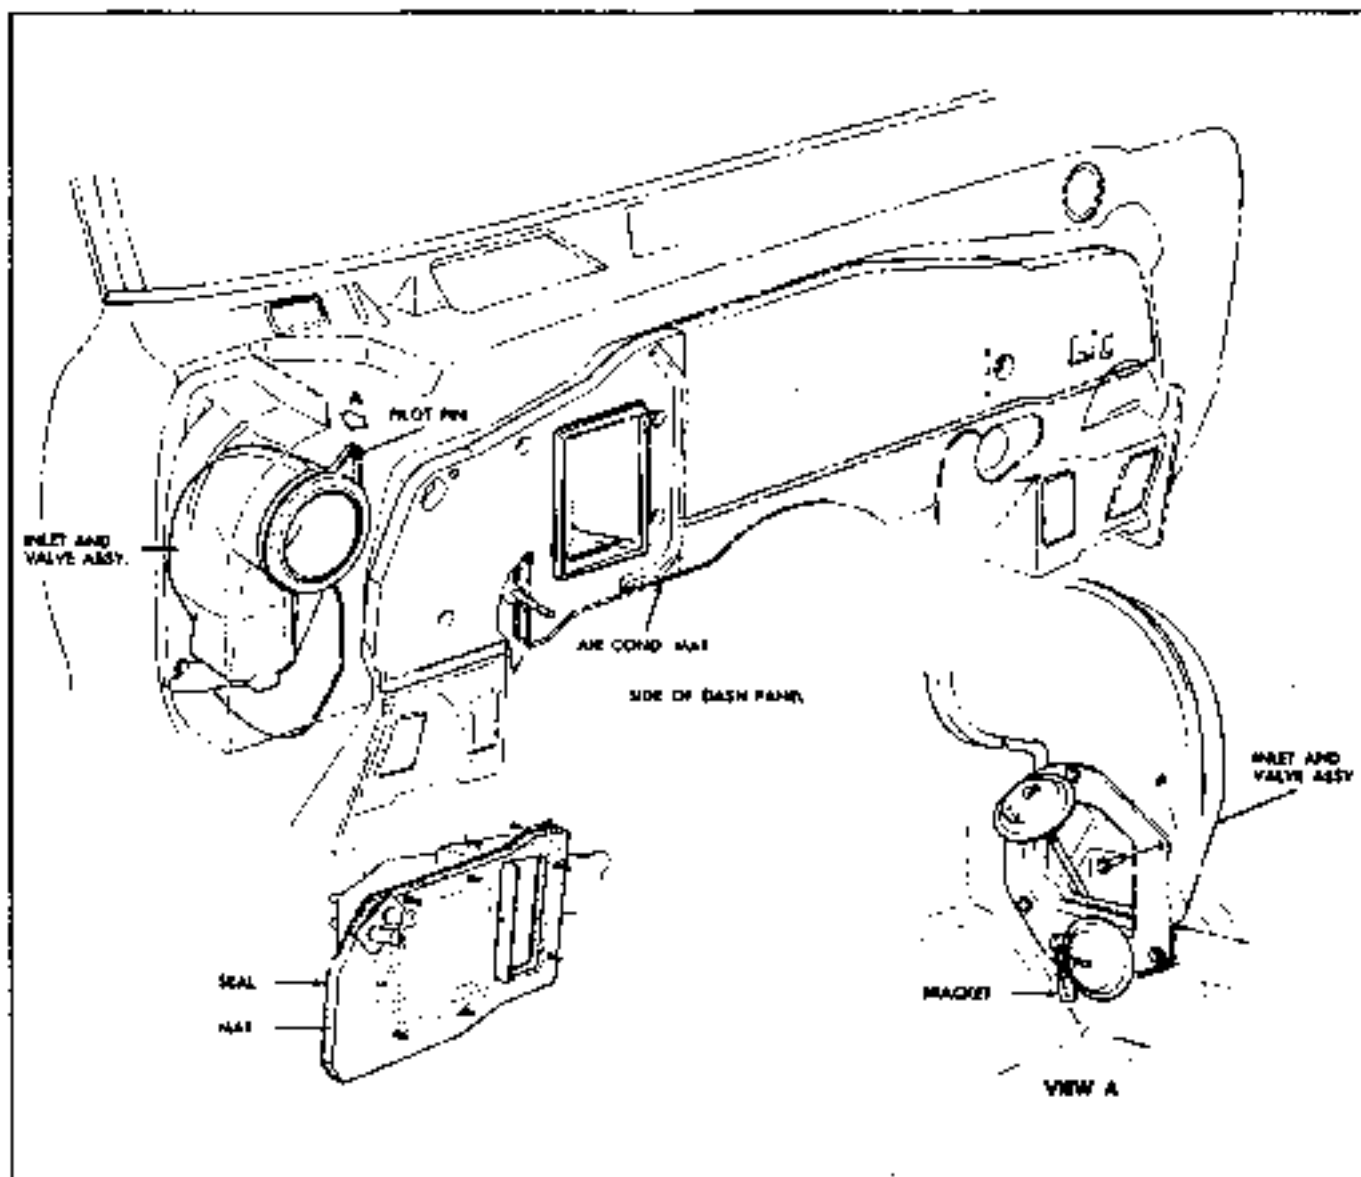

Fig. 1A-49 Air Inlet Assembly Typical Pontiac,
2. Remove vacuum hoses (Fig. 1A-49).
Firebird air inlet is composed of two air valves controlled by vacuum diaphragms. One valve is located in the kick pad and the other in the right hand plenum area. Refer to Fig. 1A-50 for service information.